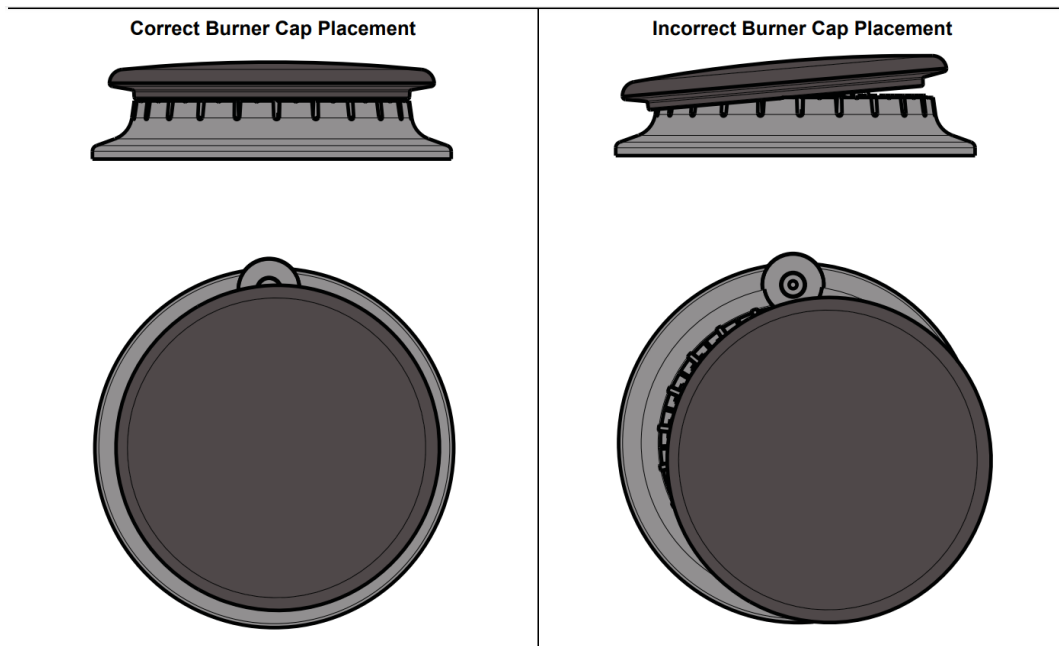

Figure 7: Burner Cap Placement
- Check to make sure there is not a gap between the burner cap and burner base. See Figure 7 “Burner Cap Placement” to see the correct and incorrect placements of the burner cap.